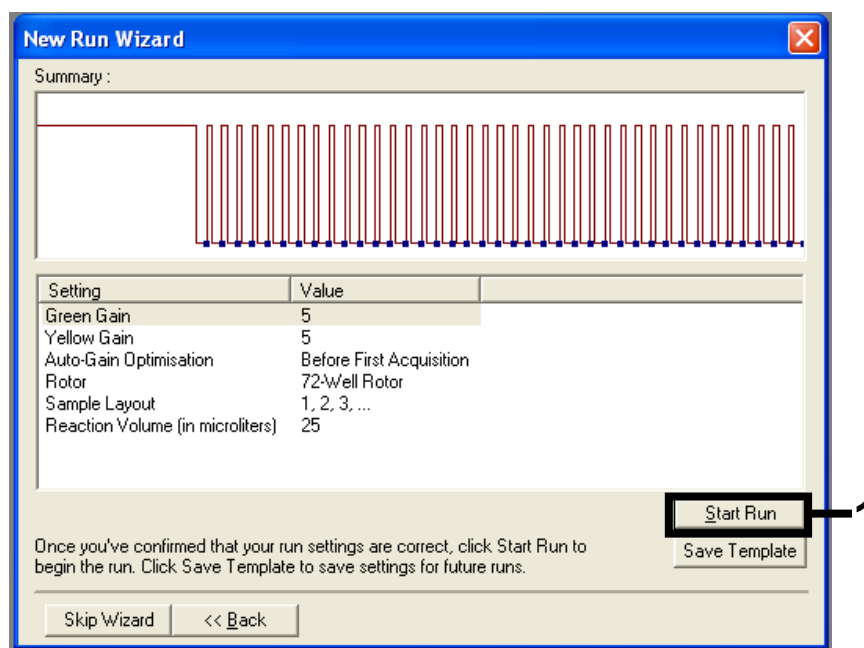

Figure 36. The “New Run Wizard” dialog box and summary screen. (1 = “Start Run” button).
6. Check the summary and click “Start Run” to save the run file and start the run (Figure 36).